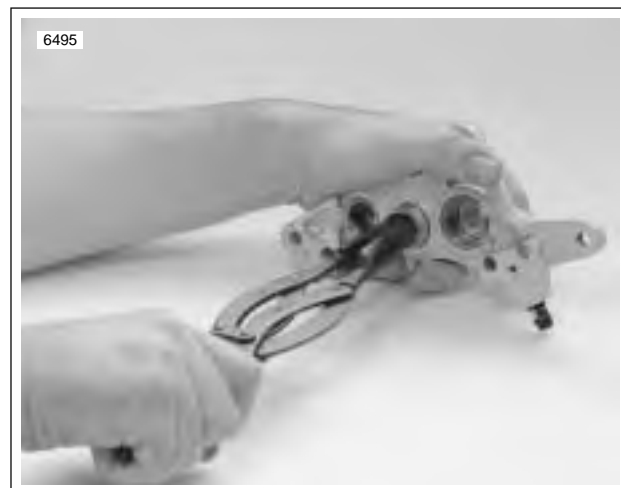

Figure 2-43. Removing Pistons (B-42887)
4. See Figure 2-43. Remove pistons using a BRAKE PISTON REMOVER (Part No. B-42887).